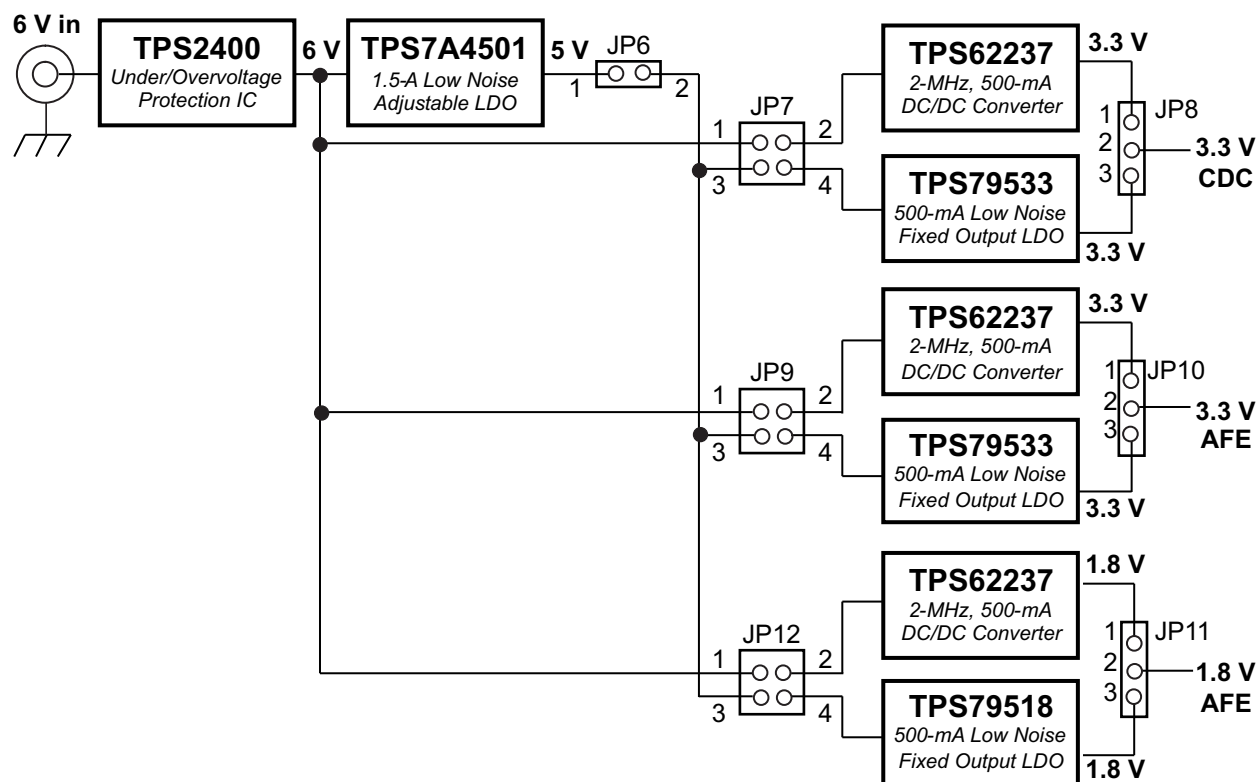

Figure 2. EVM Power Architecture
The EVM provides multiple options for powering the AFE7070 and CDCM7005 integrated circuits (IC). By default, users can power the board with a 6-Vdc adapter. Switched-mode dc/dc (buck) converters step down this voltage to the necessary 3.3-V and 1.8-V rail voltages. If desired, users can use LDOs or bench supplies rather than switching power supplies. Figure 2 provides a simplified block diagram of the EVM's power architecture showing how jumper settings can be used to enable and disable various power supply ICs. Also, disconnecting all jumpers and providing the necessary rail voltages directly to test points TP7, TP6, and TP8 is possible.